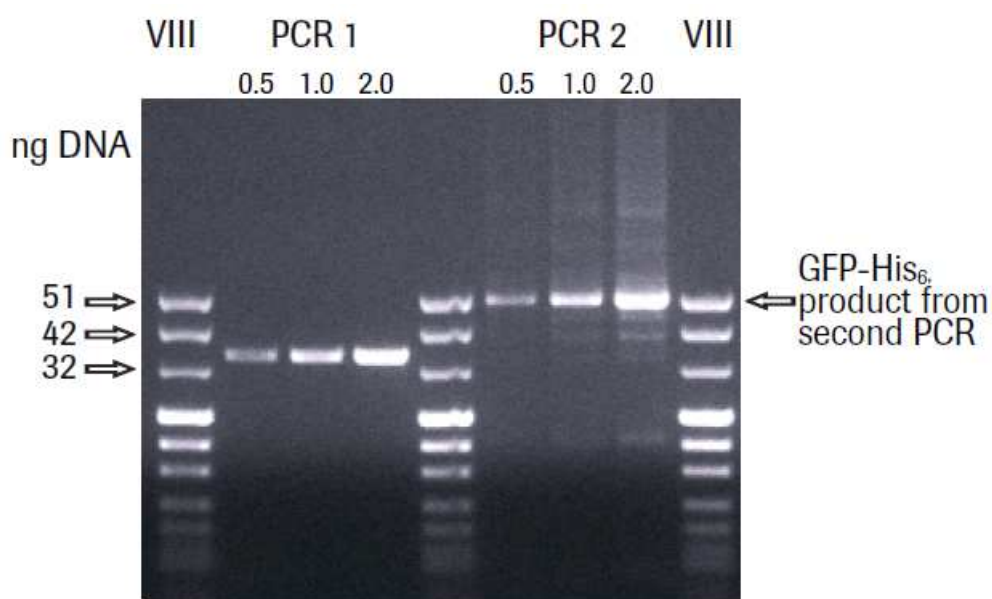

Figure 3. Typical products of the first and second PCR.
2. Estimate the product of the second PCR using the content of the molecular weight marker bands as an internal standard (Figure 3).
PCR product from the second PCR coding for C-terminal His₆-tagged GFP was quantified (Figure 3). 150 ng of the PCR product (corresponding to 3 μ l) were used for expression in a 50 μ l reaction volume of the RTS 100 *E. coli* HY Kit and analyzed by SDS-PAGE and Western blotting (Figure 4). Best expression results were obtained with PCR product concentrations of 1–3 nM (corresponding to 50–150 ng of a 1 kb fragment in a 50 μ l reaction volume).
- Analyze the products of the GFP-specific first and second PCR on a 1% agarose gel. The expected products are 754 and 1,121 bp, respectively (Figure 3).